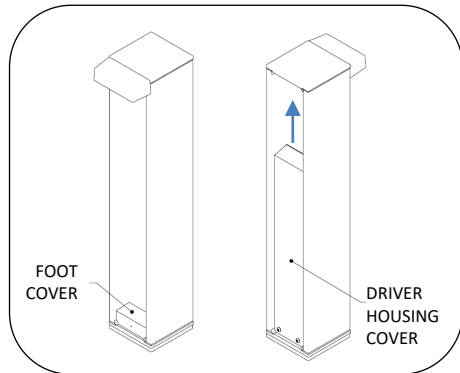

Fig. 7 – covers
10. For lighted bollards, remove driver housing cover. Remove bottom two bolts, then lift straight up to disengage interior bolts. See Fig. 7.